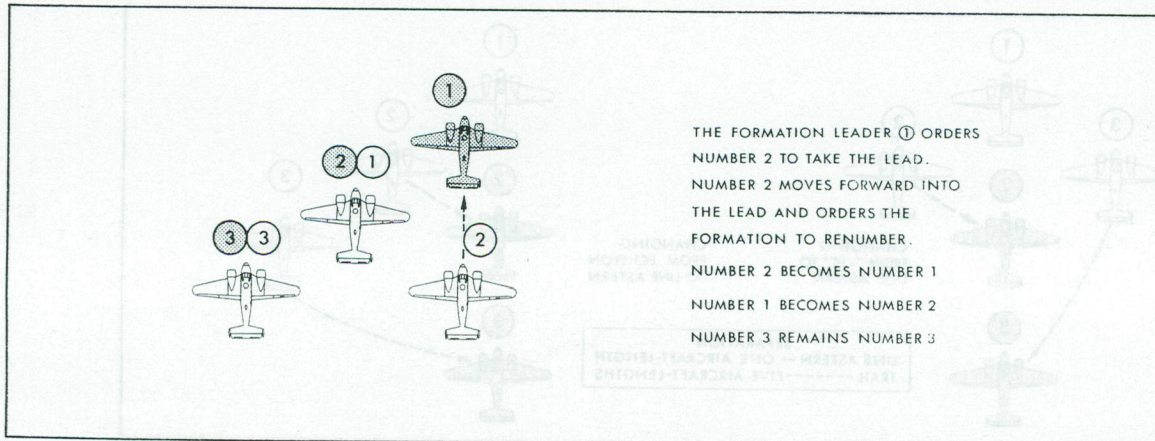

Figure 5. Changing the Lead
(1) When the formation leader gives the signal for a leader change, the new leader acknowledges that he has accepted the lead and moves ahead slightly, maintaining heading and altitude (Figure 5). The new leader calls for a check-in by announcing his call sign, aircraft number, and fuel (eg, "Clipper Red lead in aircraft one-two-three on mains half full"). The members reply by giving their number in the formation, and the aircraft number. When your aircraft is running on different tanks, or if the fuel content differs by 2/10 from the quantity given in the leader's call, report the fuel state. Remember Number 2 always formats on the leader and is always on the right for "VIC".